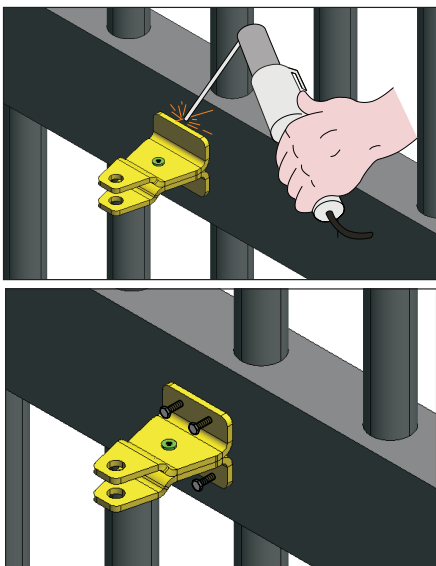

Fig. 13
13. Weld the front bracket directly on the leaf or attach it with threaded inserts (Fig. 13)